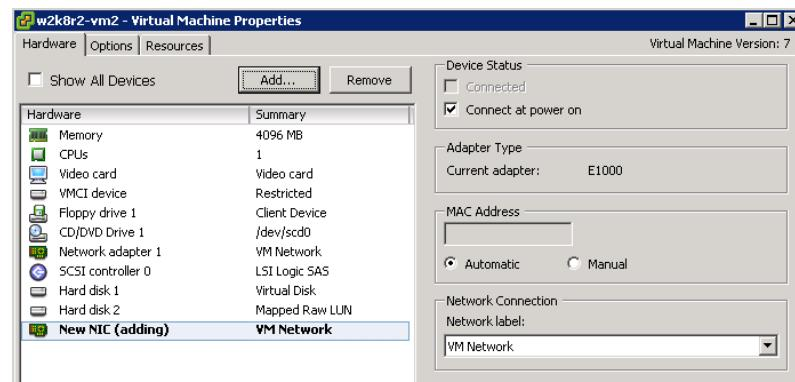

Figure 5-36. Confirm New Adapter
10. Observe the New NIC (adding) entry in the Virtual Machine Properties window, and then click **OK** (Figure 5-36).